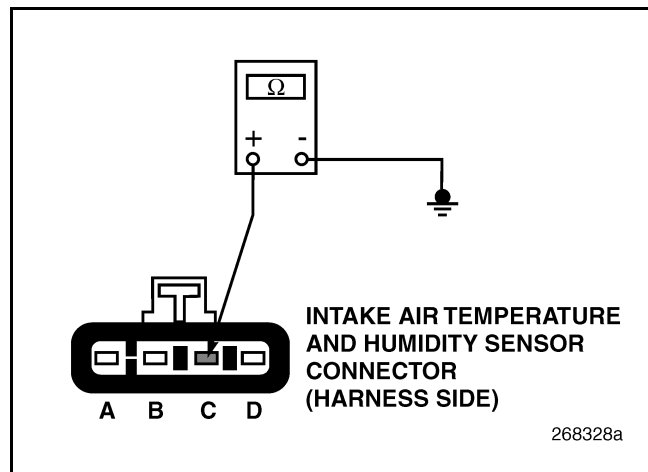

Figure 326
3. Check for continuity between IATH Sensor harness connector pin C (ground line) and a good ground (see Figure 326).